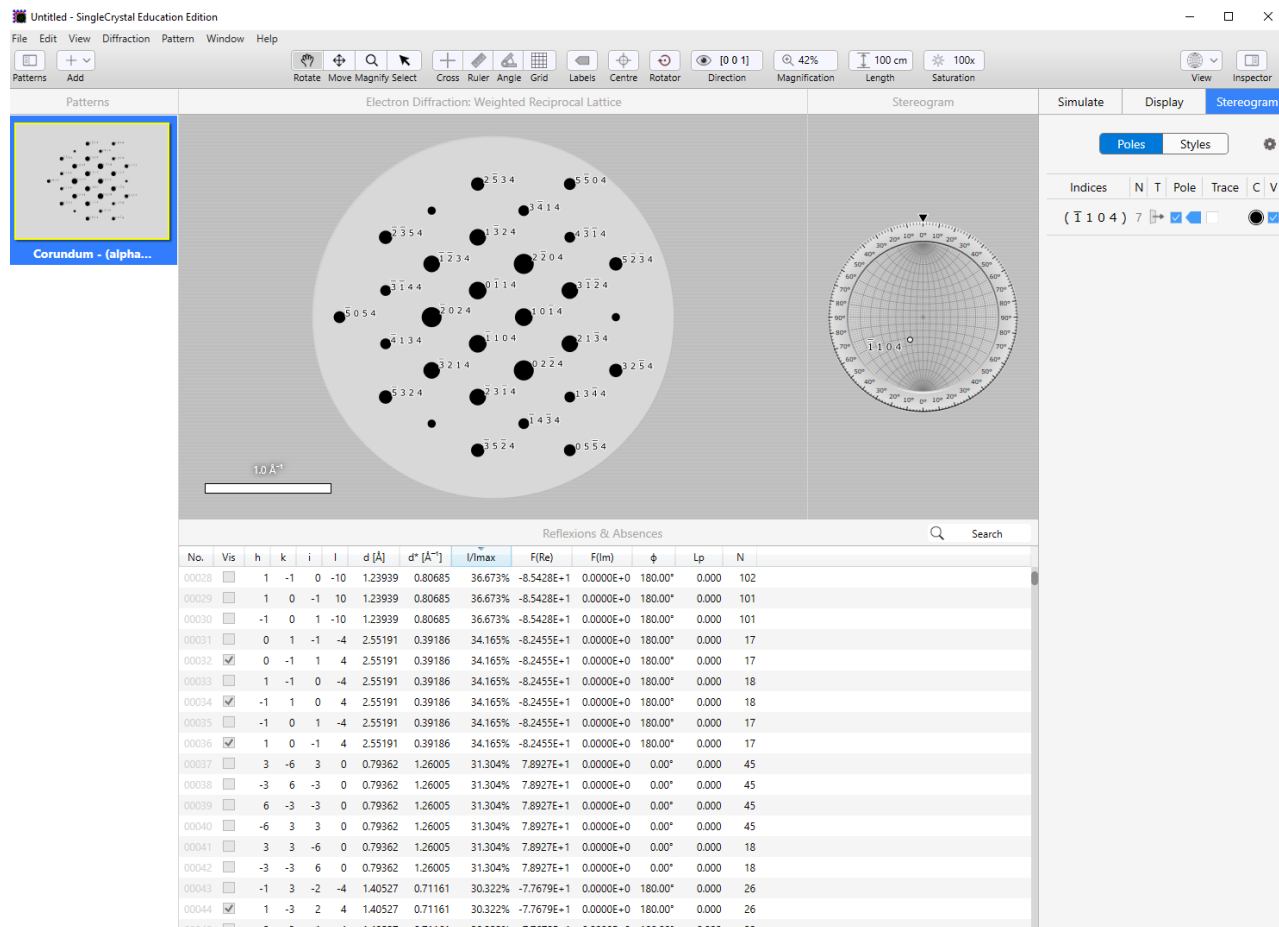

Fig. 6: SingleCrystal simulated diffraction for Al_2O_3 .
In the SingleCrystal top menu bar, click Diffraction → Weighted Reciprocal Lattice. Then, click Diffraction → X-rays. You should now see simulated reflections of Al_2O_3 . At the top of the side menu on the right, click View and show the "Stereogram" and "Reflexions List" in addition to the weighted reciprocal lattice. You should now see something similar to Fig. 6.
- First, let's talk about the **weighted reciprocal lattice**. The weighted reciprocal lattice shows all the allowed reflections for a given orientation of the crystal as black circles with different sizes based on the relative intensity of that given reflection (i.e. weighted). Notice in the top menu bar that the view (or orientation) is set as (001), just as we had set in CrystalMaker. You can select what layer of reflections (i.e. what multiple of (001)) to observe by clicking Diffraction → Set Lattice Layer. The reflection at the center of the weighted reciprocal lattice are the *specular* reflection for our crystal. All the other reflections are *off-specular* (i.e. $h, k, l \neq 0$). Note, for Lab 3, we only want to look at off-specular reflections with $l > 0$. We will not be looking at the totally in-plane reflections ($l = 0$). Hover over any reflection point within the weighted reciprocal lattice to view information about that (hkl) reflection. The displayed information includes the $2\theta = 2\theta/\omega$, elevation $= 90 - \chi$, d -spacing, ϕ , and relative intensity ($\frac{I}{I_{\max}}$) of that specific (hkl) reflection. **This is the information you will need for Lab 3.** All films were grown on $\alpha\text{Al}_2\text{O}_3$ so this tutorial will be very useful for your substrate information, but you will also need to repeat this exercise with CrystalMaker and SingleCrystal for your film.
- For Lab 3, we want to look at reflections with high relative intensity. The **reflexions list** displayed below the weighted reciprocal lattice lists all the possible reflections. An easy way to find the reflections with the highest intensity is to order the reflexions list by relative intensity. This can be done by clicking on the $\frac{I}{I_{\max}}$ header bar (displayed in blue in Fig. 6). For example, the $(\bar{1}14)$ reflection of sapphire has a relatively strong intensity. Find that reflection in the reciprocal lattice by setting the lattice layer to 4.